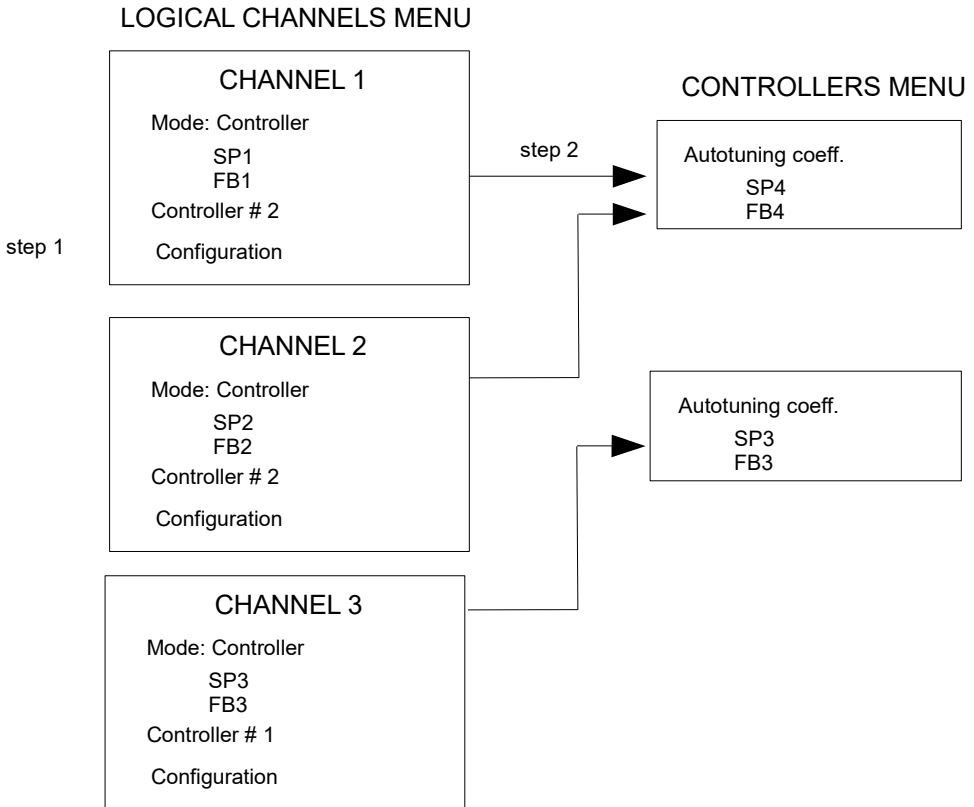

Fig. 7.124. Configuration diagram of the **Controller** using Logical channels Menu
- directly in the Logical channel in the Regulator mode by pressing the button Source configuration (see Fig. 7.124).